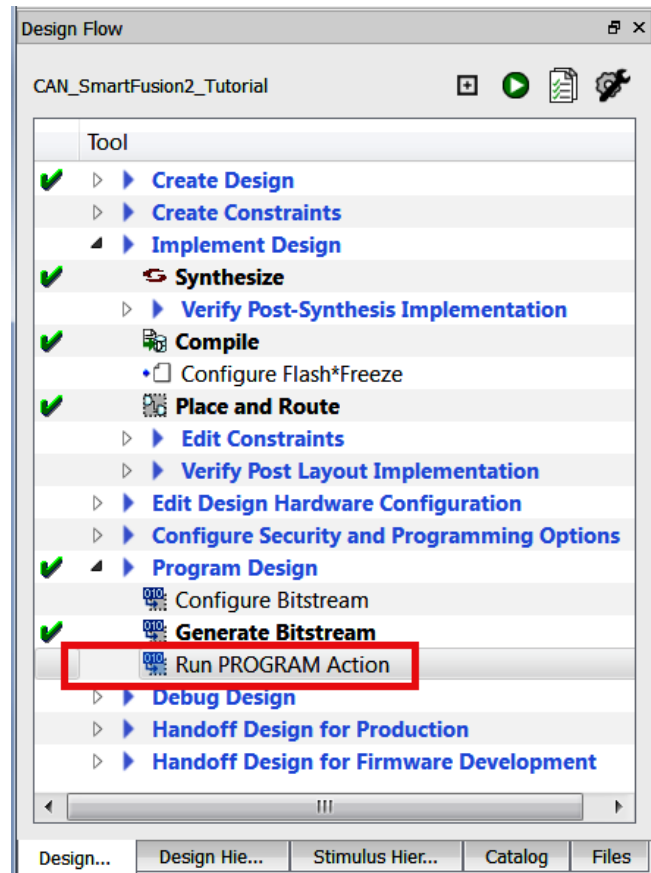

Figure 17 • Program the Device
2. Click the **Design Flow** tab and double-click the **Run PROGRAM Action** under **Program Design** in the **Design Flow** window to program the SmartFusion2 SoC device as shown in Figure 17.